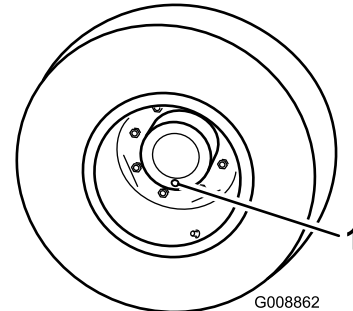

Figure 49
1. With the machine on a level surface, position a wheel so that 1 of the check plugs is at the lowest (6 o'clock) position (Figure 49).